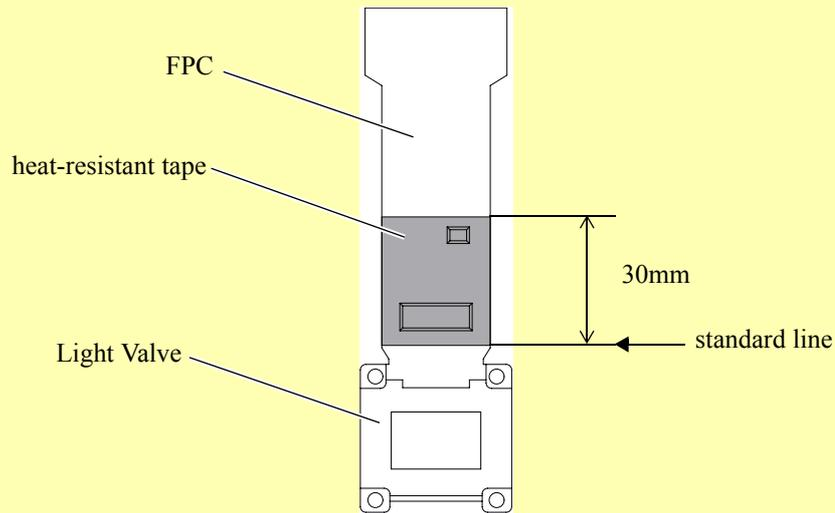

Figure 4-31.
- If the heat-resistant tape on the FPC(s) comes off, replace it with new one. When replacing the tape, align it following the standard as shown in Figure 4-31.